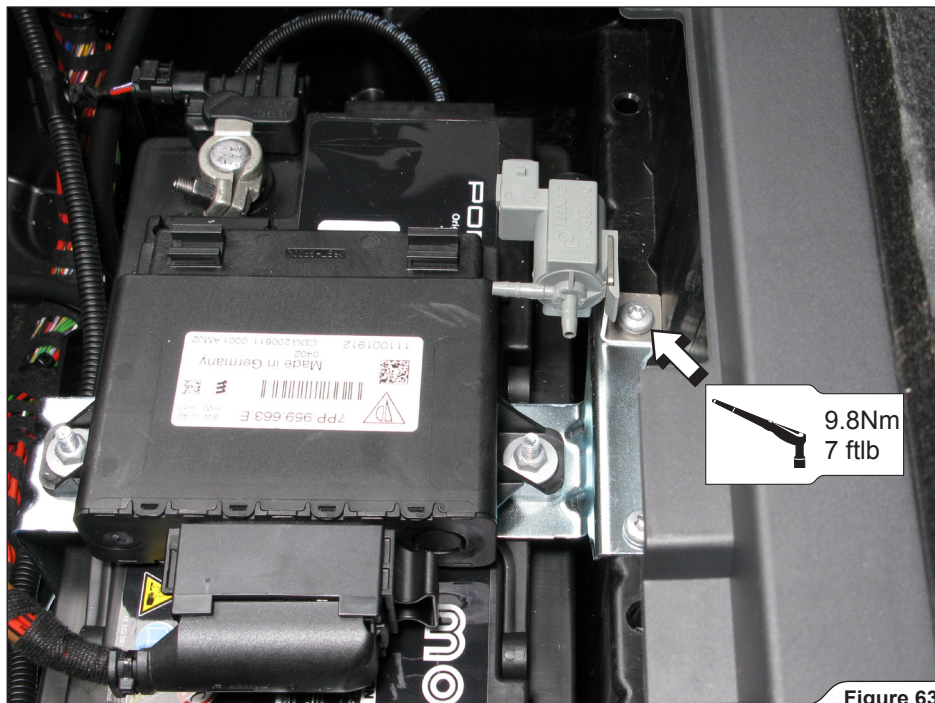

Figure 63
- Assemble the electromagnetic valve with bracket (both from Akrapovic installation kit) and bolt the bracket onto the chassis, using original bolt, as shown (**Figure 63**).